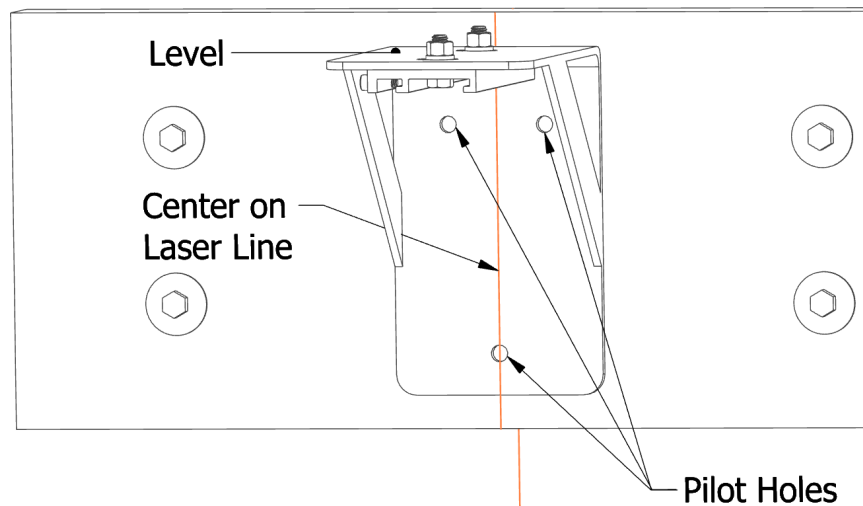

Figure 236: **Wall Mount Bracket Assembly: Proper Orientation**
- Make sure the wall mount bracket assembly is oriented as shown in Figure 236.